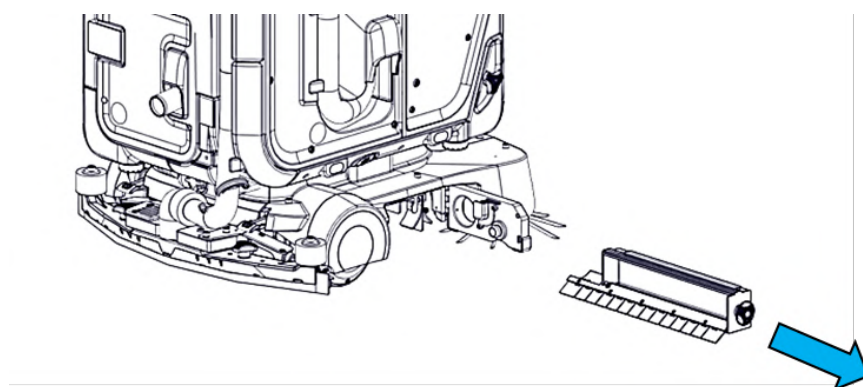

FIGURE 10-13
1. Located on the right of the machine, twist the knob anti-clockwise, open the latch to open the brush door (**Fig. 10-13**).